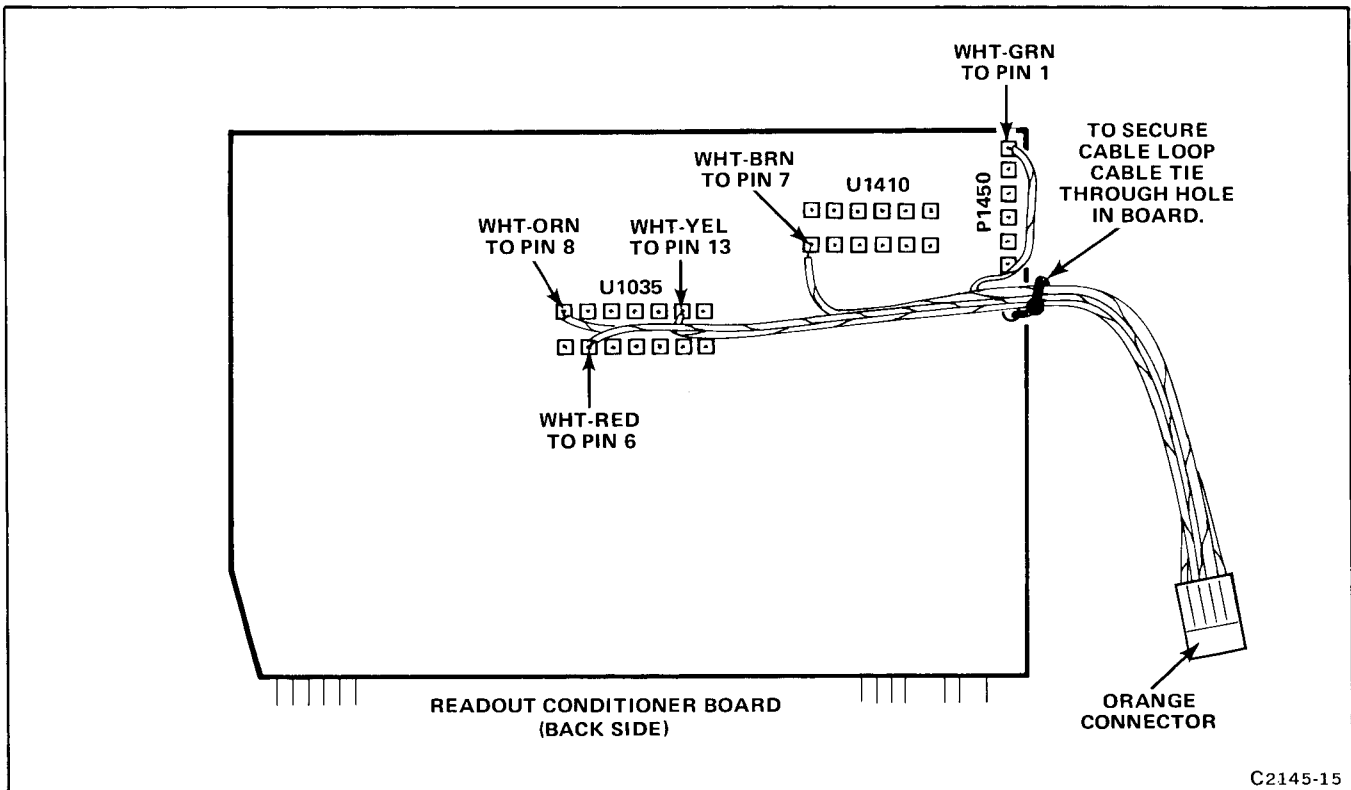

Figure 1-9. Adding 5-wire cable to 414 Readout Conditioner board.
12. Install 5-wire cable (with orange connector) to Readout Conditioner board as shown in Figure 1-9.